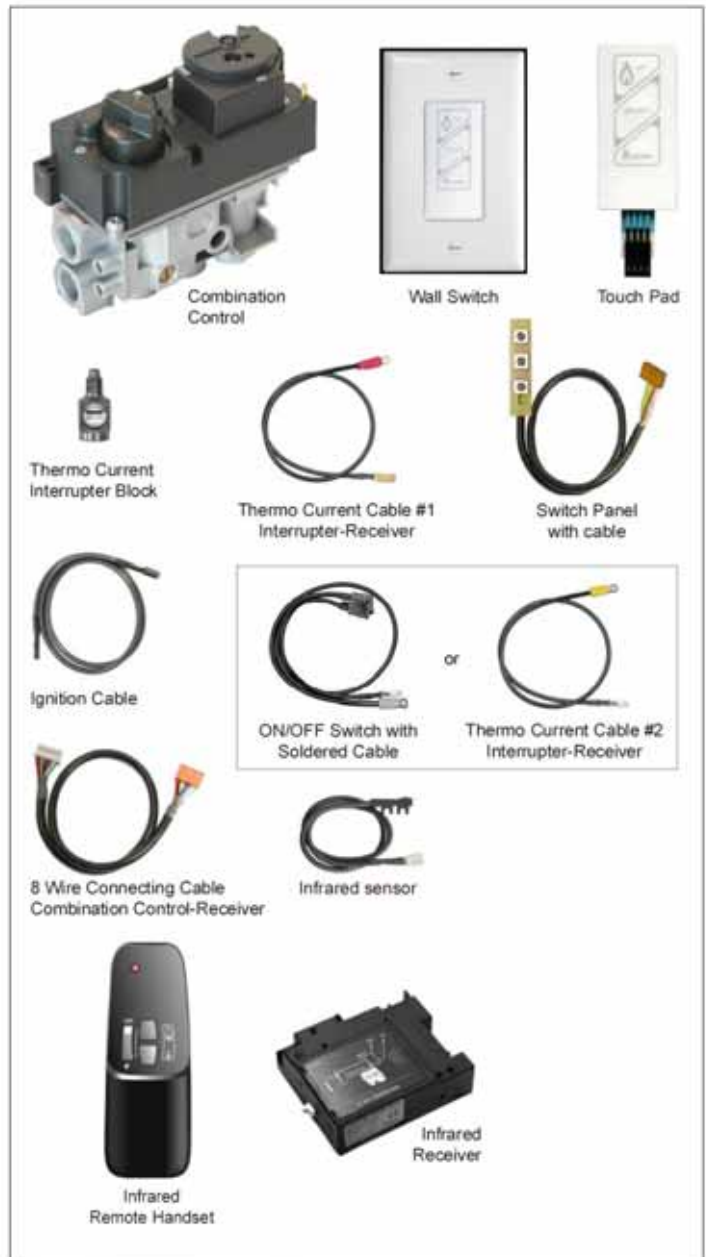

Figure 1: GV60 Components
- 1) Turn Knob **A** (figure 1) slightly left towards the ignition position  until reaching stop, press down and hold for five seconds (only pilot gas flows).
The standard GV60 system consists of the following components (see figure 1).